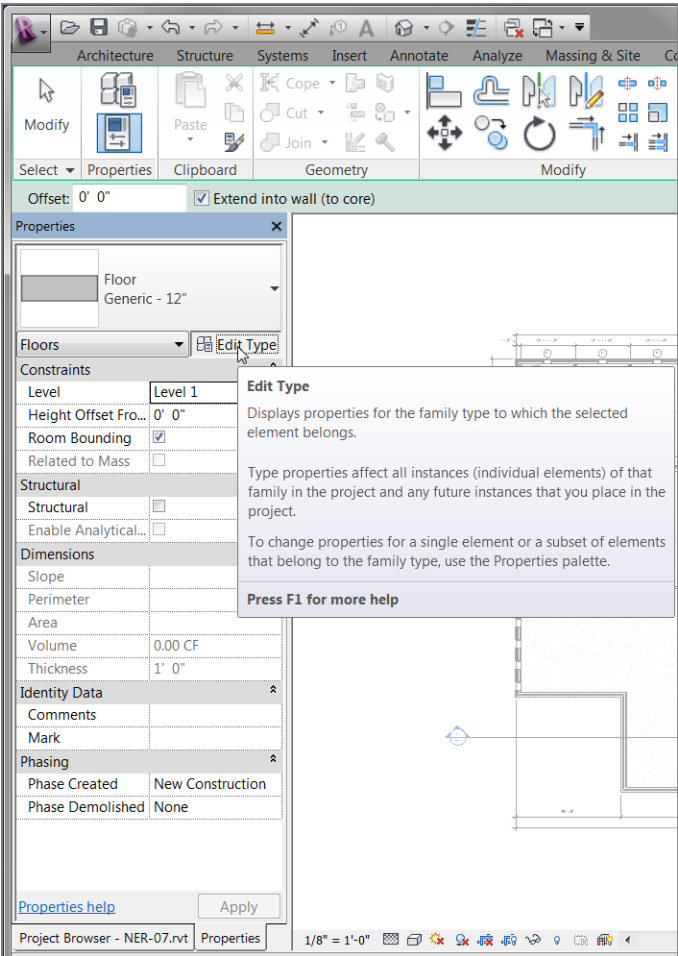

FIGURE 6.3 : Clicking the Edit Type button to begin creating a new floor slab type
5. At upper right in the dialog, click the Edit Type button (see Figure 6.3).